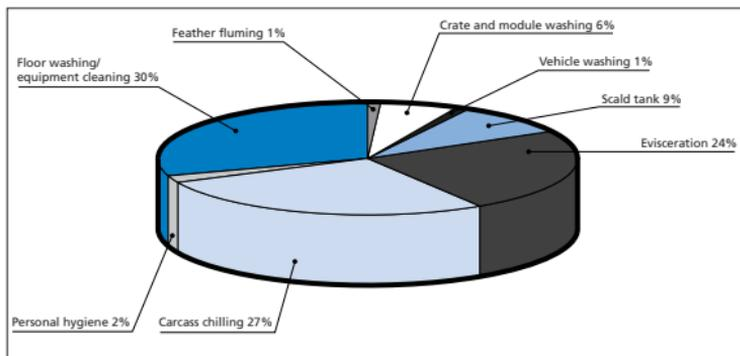
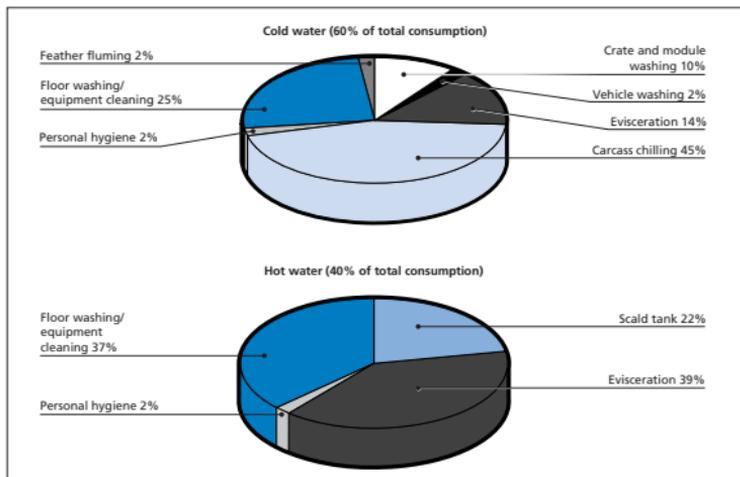

Fig 1 Breakdown of water use by different process areas at a turkey processor
Fig 2 Hot water and cold water consumption for different process areas at a turkey processor
- Compare your use to a typical breakdown for different process areas. Fig 1 presents a breakdown measured at a typical turkey processor.
Fig 2 shows a breakdown of hot and cold water use at the turkey processor featured in Fig 1.